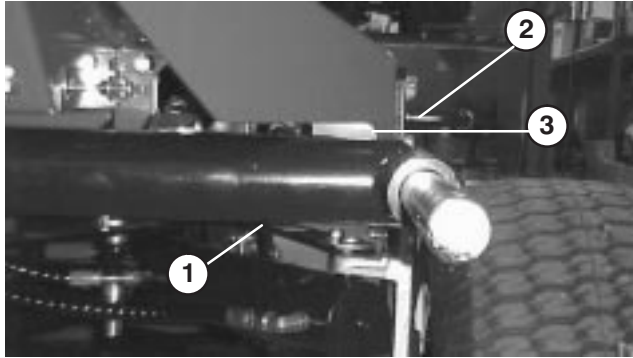
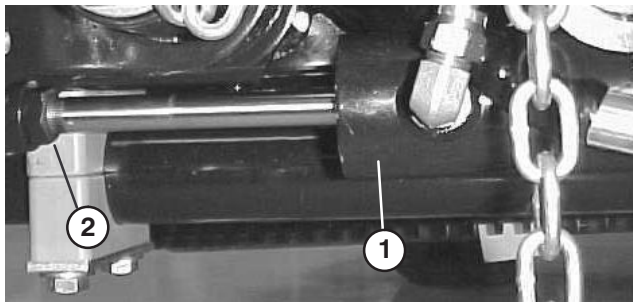
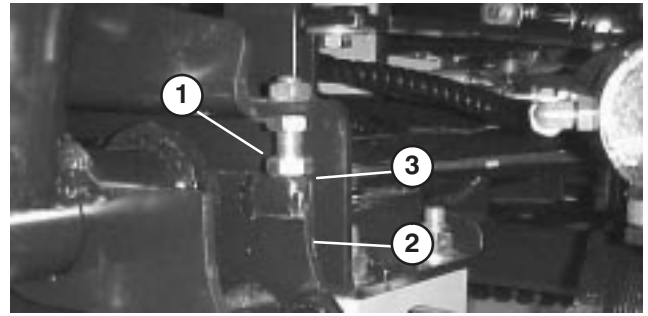

Figure 24
Figure 25
Figure 26
ADJUST LIFT ARMS (Fig. 24 – 28)
1. Start engine, raise lift arms and check to make sure clearance between each lift arm and floor plate bracket is .18" – .32" (Fig. 24). If clearance is not in this range, back off stop bolts (Fig. 26) and adjust cylinder to attain clearance. To adjust cylinder, back off the jam nut on the cylinder (Fig. 25), remove pin from rod end and rotate clevis. Install pin and check clearance. Repeat procedure if required. Tighten clevis jam nut.
2. Check to make sure clearance between each lift arm and stop bolt is .005" – .040" (Fig. 26). If clearance is not in this range, adjust stop bolts to attain clearance.